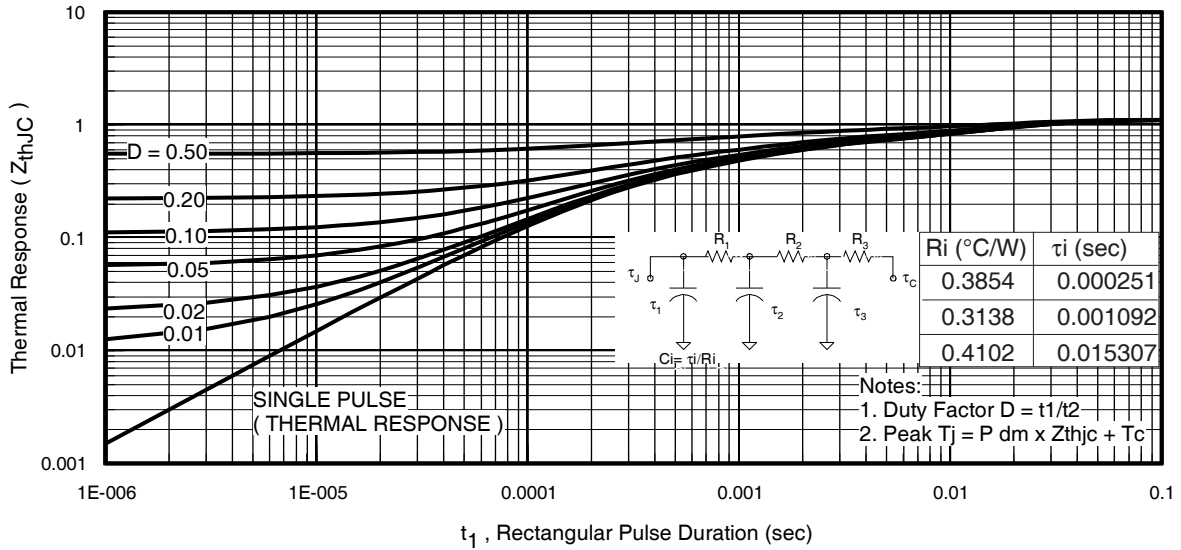
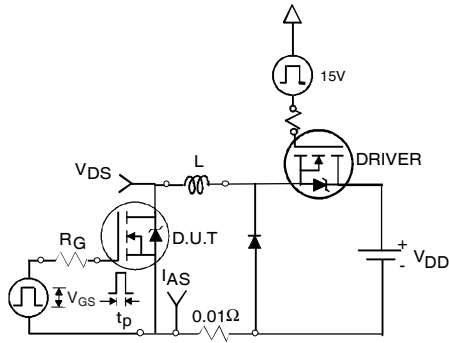

Fig 11. Maximum Effective Transient Thermal Impedance, Junction-to-Case
Fig 12a. Unclamped Inductive Test Circuit
- ① Repetitive rating; pulse width limited by max. junction temperature. (See fig. 11).
- ② Limited by T_{Jmax} , starting $T_J = 25^\circ\text{C}$, $L = 0.13\text{mH}$, $R_G = 25\ \Omega$, $I_{AS} = 42A$, $V_{GS} = 10V$. Part not recommended for use above this value.
- ③ Pulse width $\leq 1.0\text{ms}$; duty cycle $\leq 2\%$.
- ④ $C_{oss\ eff.}$ is a fixed capacitance that gives the same charging time as C_{oss} while V_{DS} is rising from 0 to 80% V_{DSS} .
- ⑤ Limited by T_{Jmax} , see Fig.12a, 12b, 15, 16 for typical repetitive avalanche performance.
- ⑥ This value determined from sample failure population. 100% tested to this value in production.
- ⑦ When mounted on 1" square PCB (FR-4 or G-10 Material). For recommended footprint and soldering techniques refer to application note #AN-994
- ⑧ R_θ is measured at T_J approximately 90°C
3. Equation below based on circuit and waveforms shown in Figures 12a, 12b.
$Z_{thJC}(D, t_{av})$ = Transient thermal resistance, see figure 11)